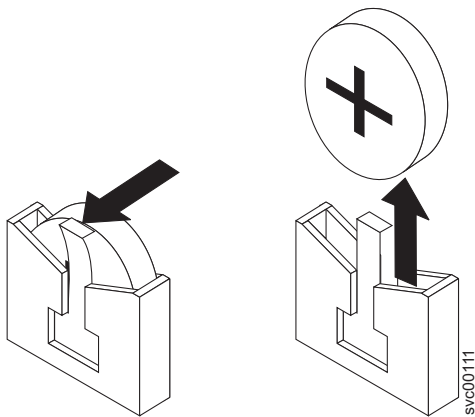

Figure 136. SAN Volume Controller 2145-8F2 or the SAN Volume Controller 2145-8F4 CMOS battery holder
- a. Use one finger to pull the retainer tab, which is shown in Figure 136, that secures the battery to its housing.